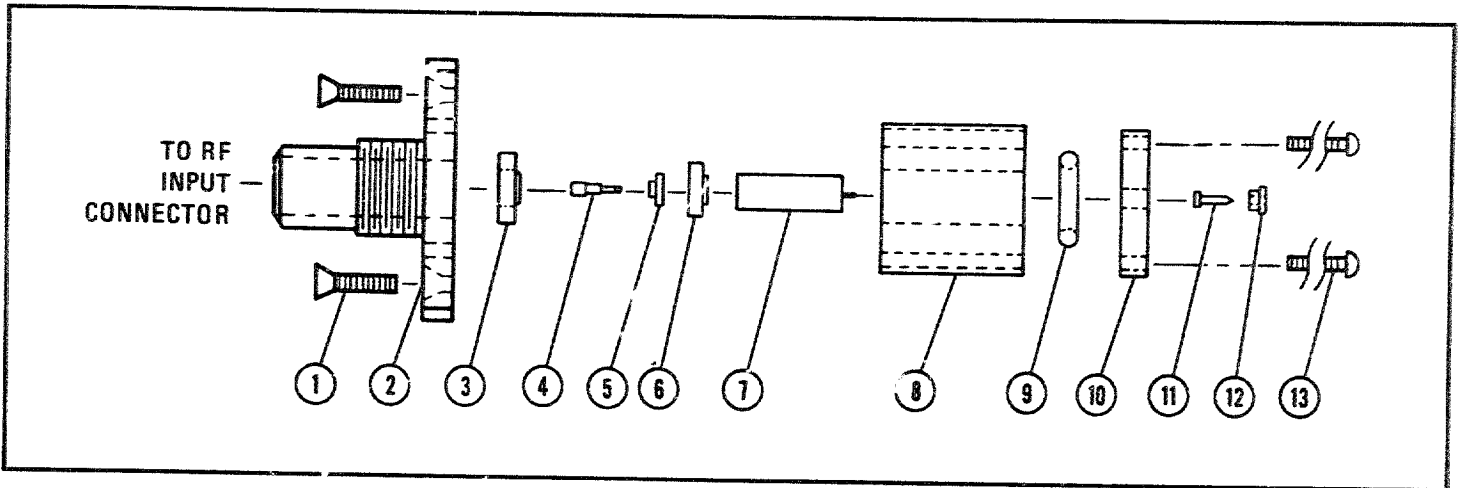

Figure 8-3. RF Input Assembly
Refer to Figure 8-3 while performing the following procedure:
Figure 8-3 shows the RF end of the module on the left, the Preamplifier end on the right. The center lead which goes to the Preamplifier must be longer to ensure good contact with the printed circuit board.
4. Reassemble the RF input to the module beginning with items ③ through ⑥ as follows:
Insert the Capacitor-Pin ④, through the teflon washer ⑤. Refer to Figure 8-3 for proper orientation of the lip of the washer.